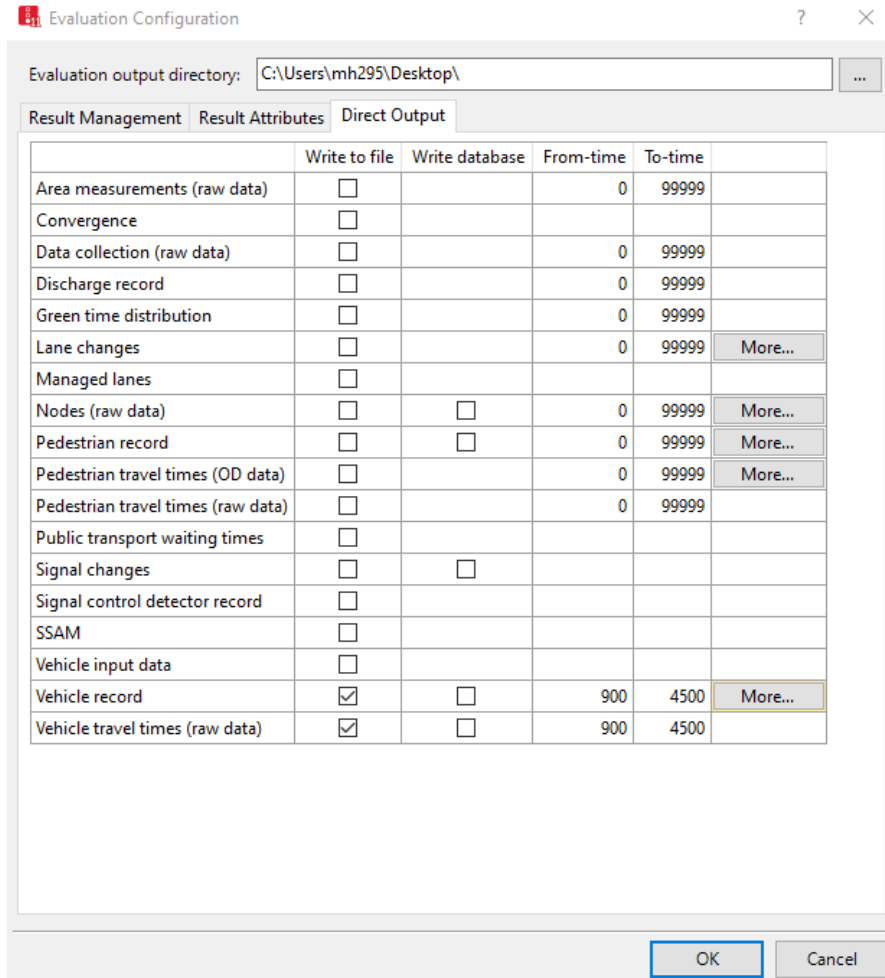

Figure 31: Evaluation Configuration pop-up window, Direct Output tab
- step iv. Click on the *Direct Output* tab (see Figure 31). In the *Direct Output* tab, you designate results you would like to have written to a file.